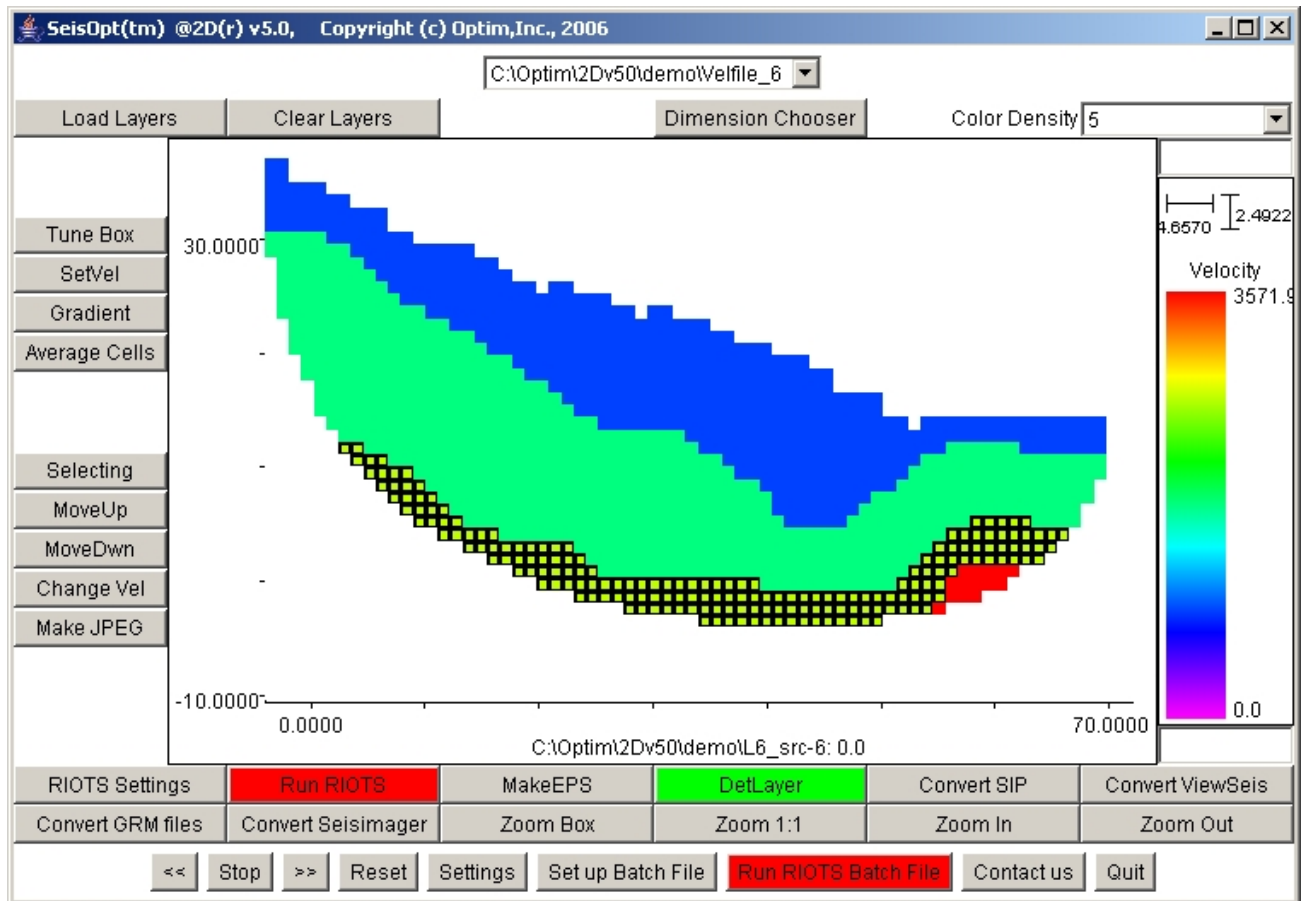

Figure 44: Velocity model after the 'Layer Select' action
- Click on 'Layer Select' and click on the layer which has to be moved or whose velocity has to be changed. Figure 44 shows an example of a velocity model after such an action